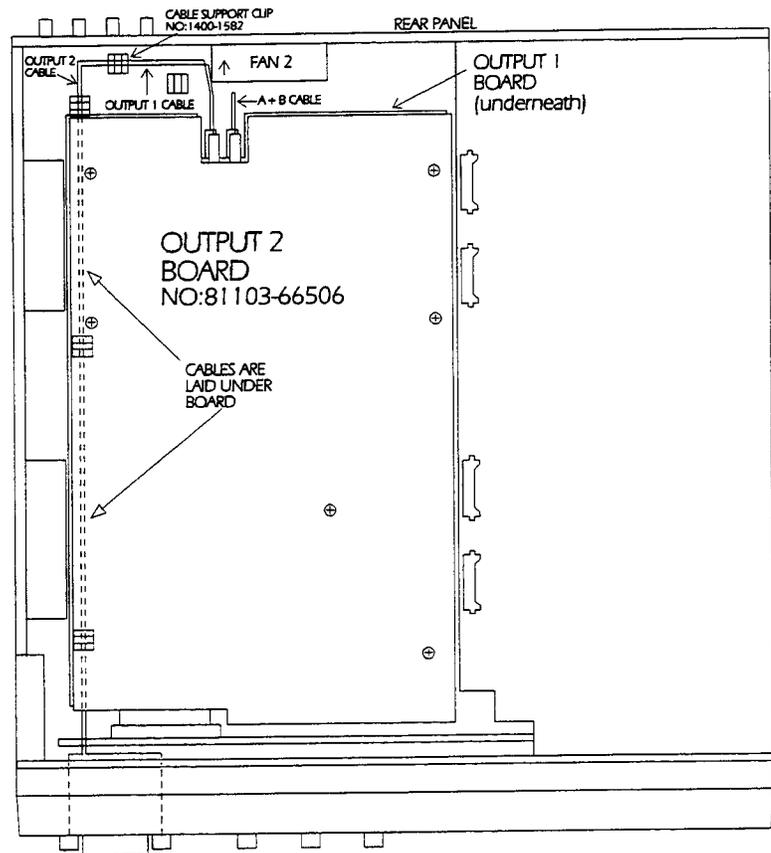

Figure 5-18. Output 1 and Output 2 boards fitted
- If Output 1 and Output 2 boards are both fitted, press Output 1 cable into the cable support clip and then to Output 1 board. Press the plug firmly home into the connector on the board. Secure Output 2 cable in the clip next, and then to Output 2 board, as shown in Figure 5-18. Press the plug firmly home into the connector on the board